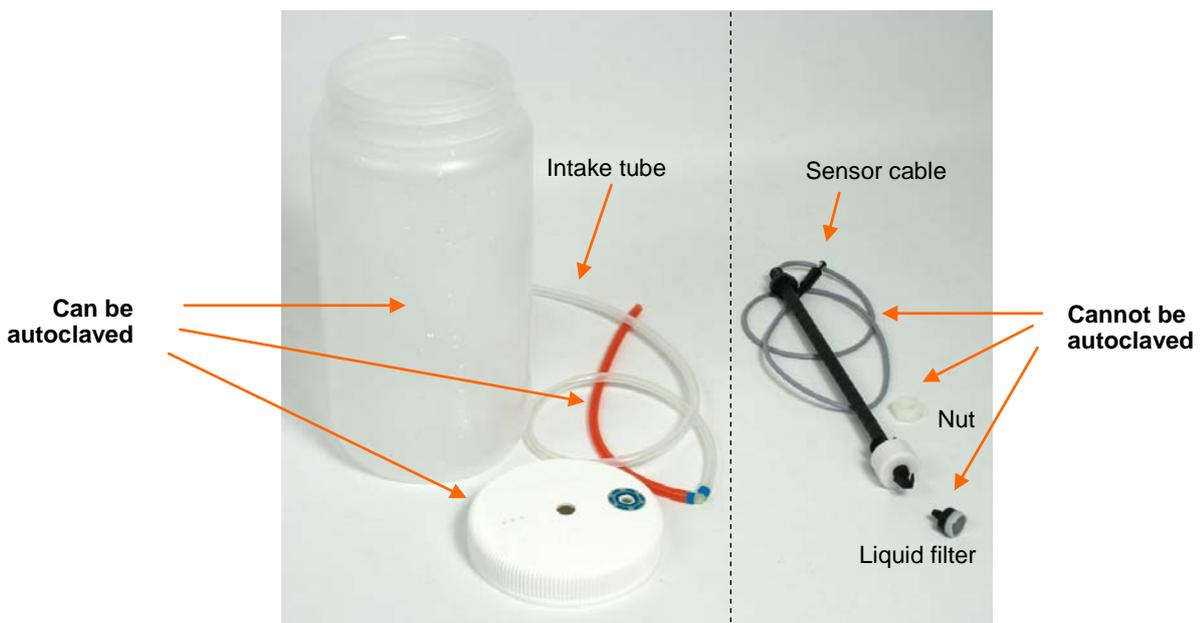

Figure 38. Autoclavable and un-autoclavable liquid bottle parts
Caution! Do not autoclave any part of this instrument apart from those specified in Table 8 and Figure 38.
The liquid bottles, tubes and tube connectors can be autoclaved some five to ten times (Figure 38). The liquid level sensors or the liquid filters cannot be autoclaved (Figure 38).
You may autoclave, that is, sterilize materials with pressurized steam. Autoclavable and un-autoclavable parts of the washer unit are listed in Table 8. Refer also to Figure 38.
3. Autoclave the liquid bottles, tubes and liquid connectors if needed (Figure 38). However, the liquid level sensors or the liquid filters cannot be autoclaved (Figure 38).